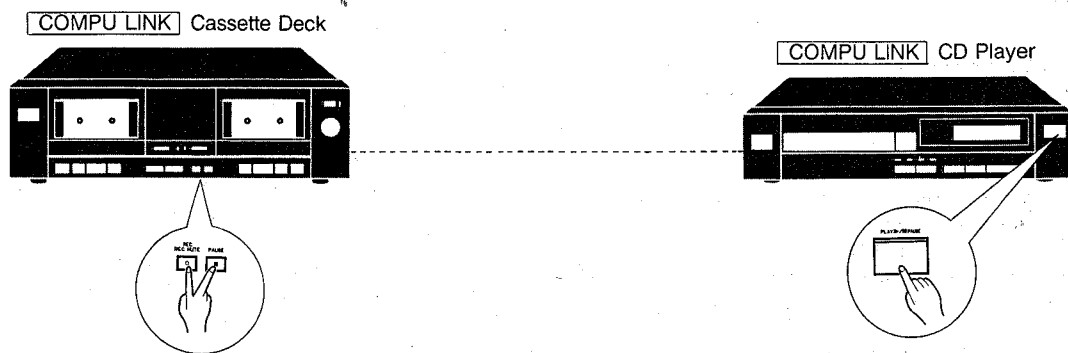

Fig. 17
3. Synchronized Recording (Fig. 17)